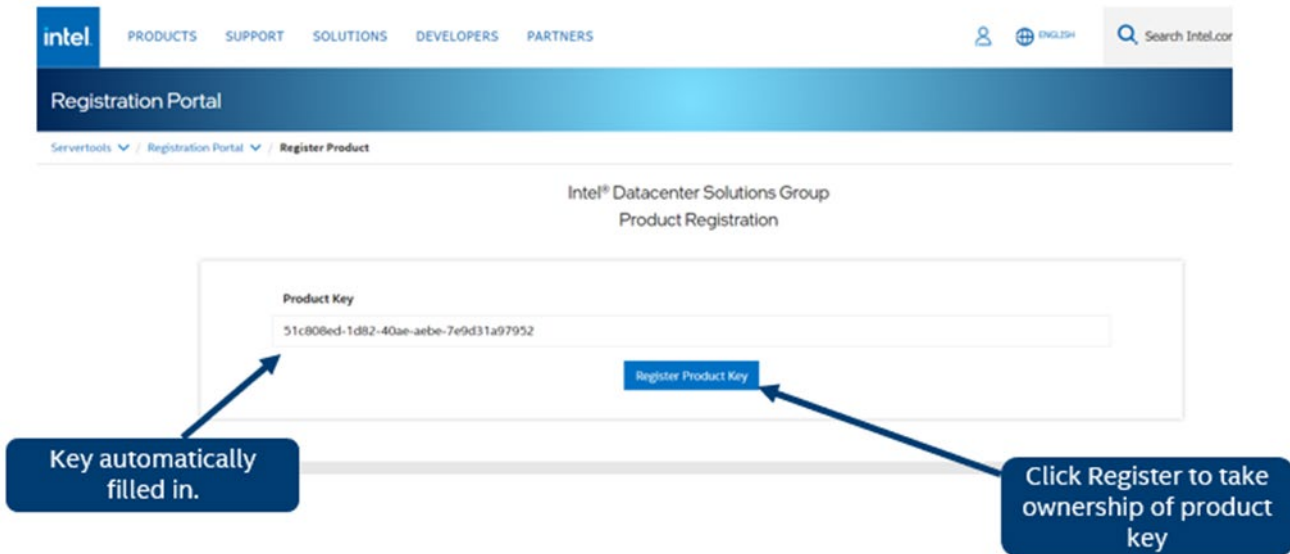

Figure 72. Register Key
5. On the Registration Screen, Click the “Register Product Key” button to register the pre-entered license key number (see Figure 72)